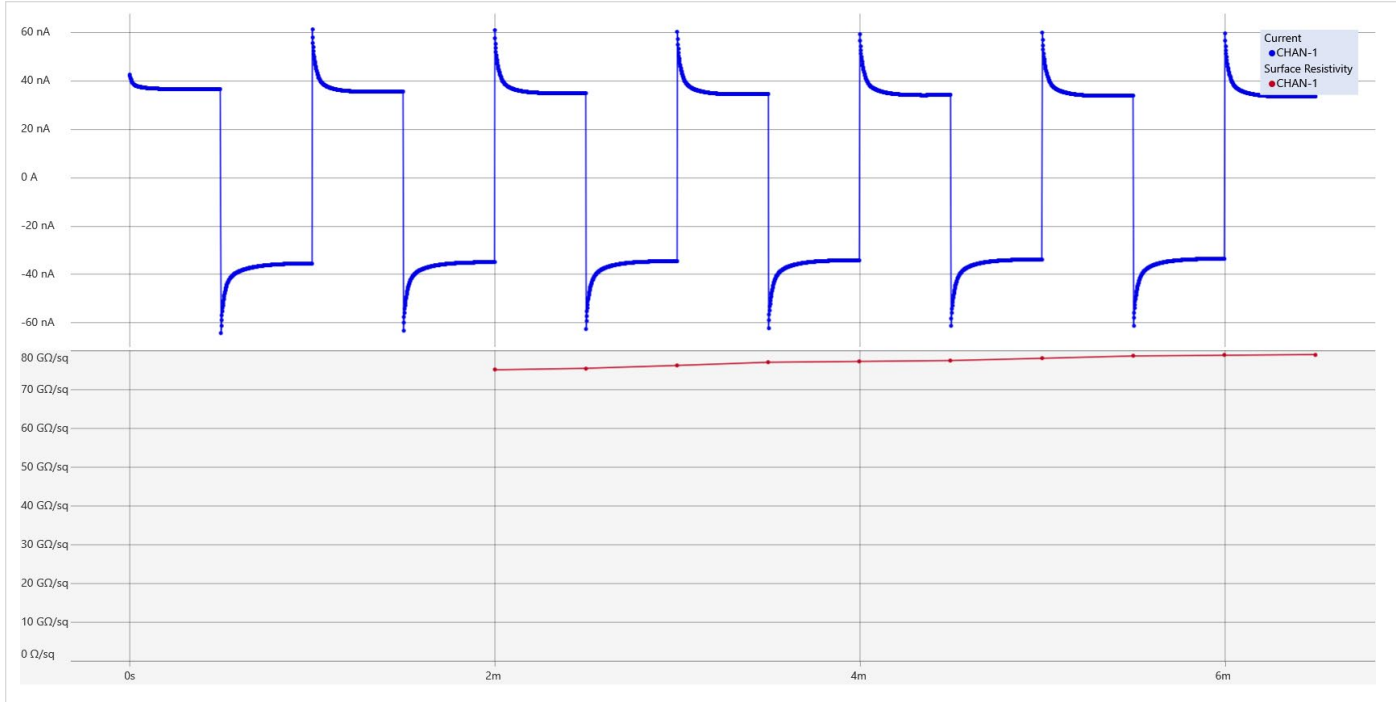

Figure 8. Alternating Polarity method test results displaying current and resistivity as a function of time
- Use the alternating polarity technique to eliminate inherent background currents. **Figure 8** shows graphs of the alternating polarity technique from KickStart software. The top graph shows the current as a function of time and the bottom graph shows the surface resistivity.